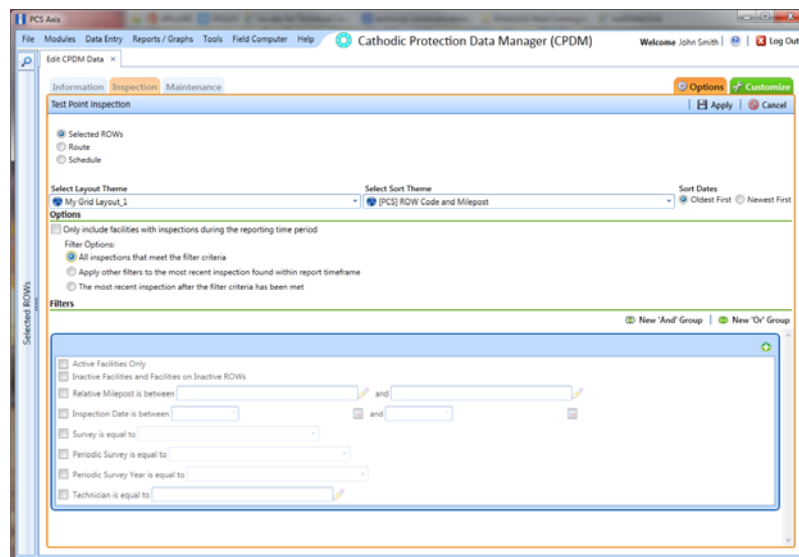

Figure 7-30. Options
- 7 Click  **Save**, then click the **Options** tab  **Options** to open the options page (Figure 7-30, page 314).